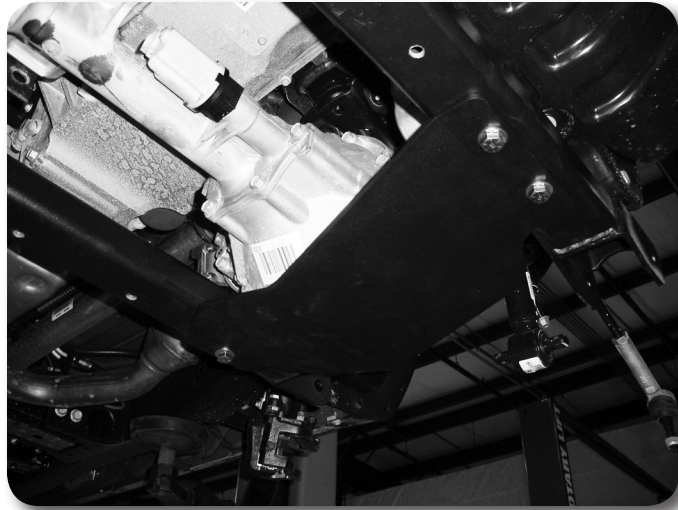

Figure 21
35. Attach the provided differential skid plate to the front crossmember with two 1/2" x 1-1/4" bolts and washers in the threaded holes and one 1/2" x 3" bolt, nut and washers through the hole in the rear crossmember. **Figure 21**. Use Loctite on all skid plate bolts in the front crossmember. Leave hardware loose.